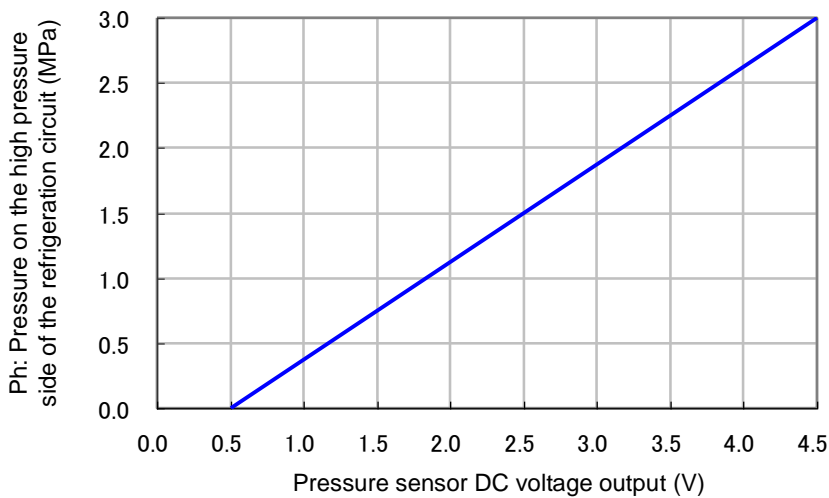

Fig. 3.3-39 Refrigerant circuit pressure sensor (for high pressure) analogue output
- (1) Check the "Ph: Refrigerant circuit pressure on the high pressure side" value in the "Check Monitor Menu".
- (2) Check voltage by contacting the probe of the tester directly to the connector external surface with the "CN4" connector of the main board being inserted.
- (3) Contact the positive probe to the pin number 11 and contact the negative probe to the pin number 10 of the "CN4" connector.
- (4) Check that the voltage between the pin number 11 and the pin number 10 is in the same relationship shown in Fig. 3.3-39. (Accuracy: +/- 5%)
- (5) If the voltage is in the same relationship as the graph shows, it means that the main board is operating correctly.